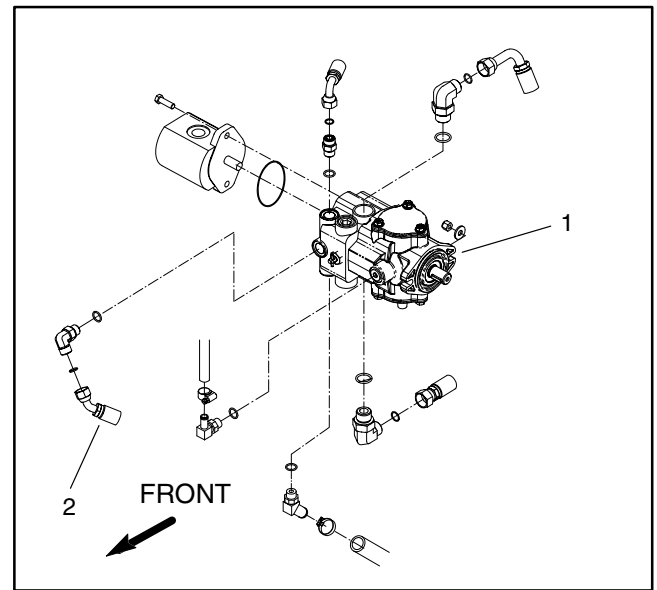

Figure 23
4. Disconnect hose from the front fitting of the charge pump returning from the control valve (Fig. 23). Connect T-connector and pressure gauge to the pump and hose fitting.